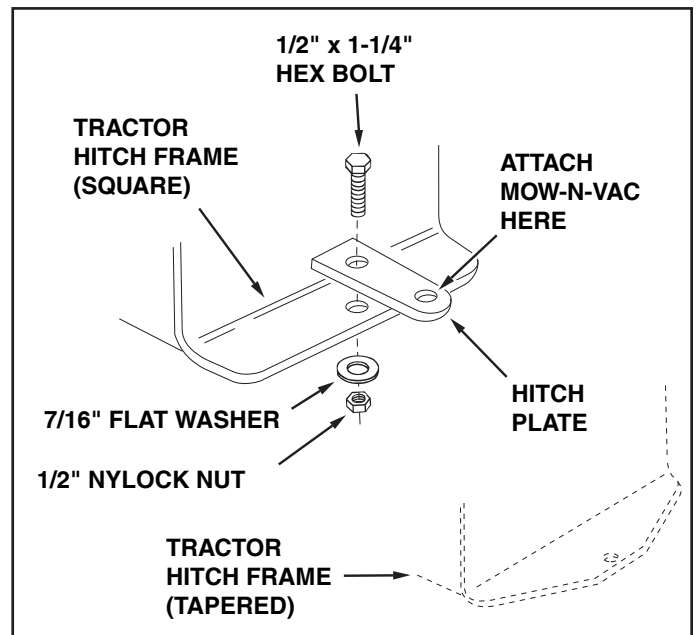

FIGURE 21
- Use a 1/2" x 1-1/4" hex bolt, a 7/16" flat washer and a 1/2" nylock nut. See figure 21.